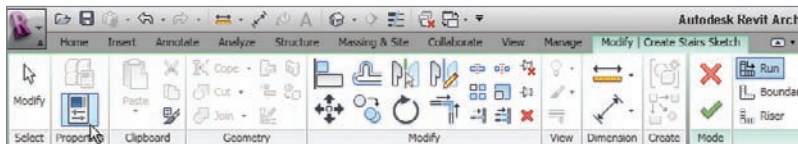

FIGURE 10.2 Click the Properties button on the Modify | Create Stair Sketch tab.
4. In the Modify | Create Stairs Sketch tab, click the Properties button to make sure the Properties dialog is active, as shown at the far left of Figure 10.2. If the Properties dialog is already there, you don't need to do this step.